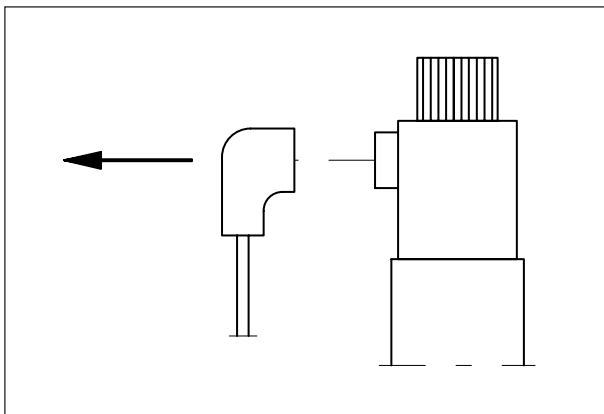

Fig. 59
- b. Disconnect the power cable on magnetic valve (fig. 59).